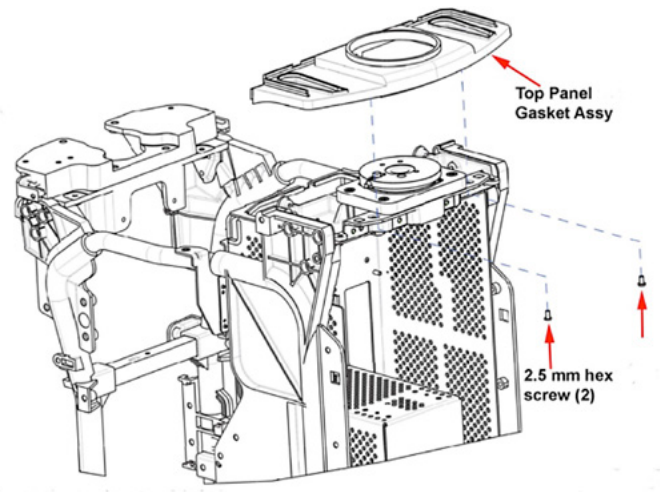

Figure 3-93 Top Panel Gasket Assembly
- 69.8 Remove two 2.5 mm hex screws securing Top Panel Gasket Assembly and remove from console (see Figure 3-93).